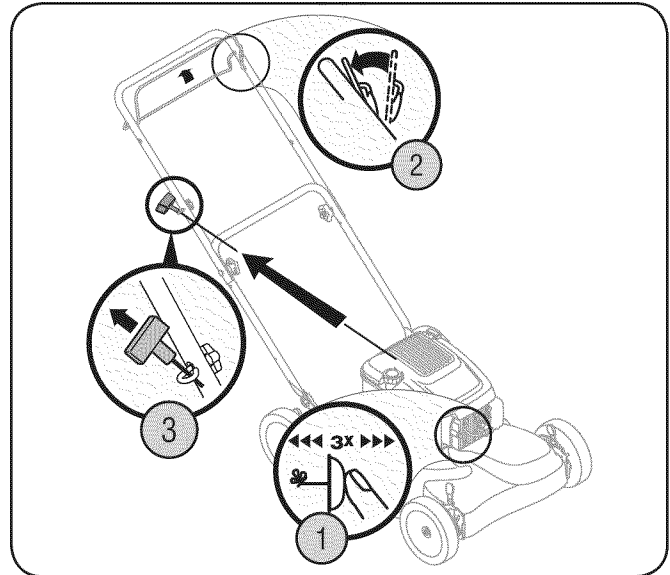

Figure 5-1
1. Push the primer three times. Wait about two seconds between each push. See Fig. 5-1. Do not prime to restart a warm engine.
3. Holding these two handles together firmly, grasp recoil starter handle and pull rope out with a rapid, continuous, full arm stroke. See Fig. 5-1. Keeping a firm grip on the starter handle, let the rope rewind slowly. Repeat until engine cranks. Let the rope rewind each time slowly.